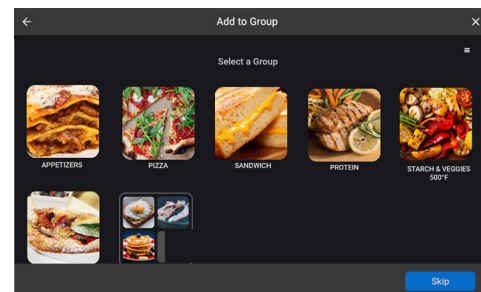

Figure 31: Select Groups to Place Recipe Into
- Select which group(s) to which the recipe will be added (Figure 31, below).